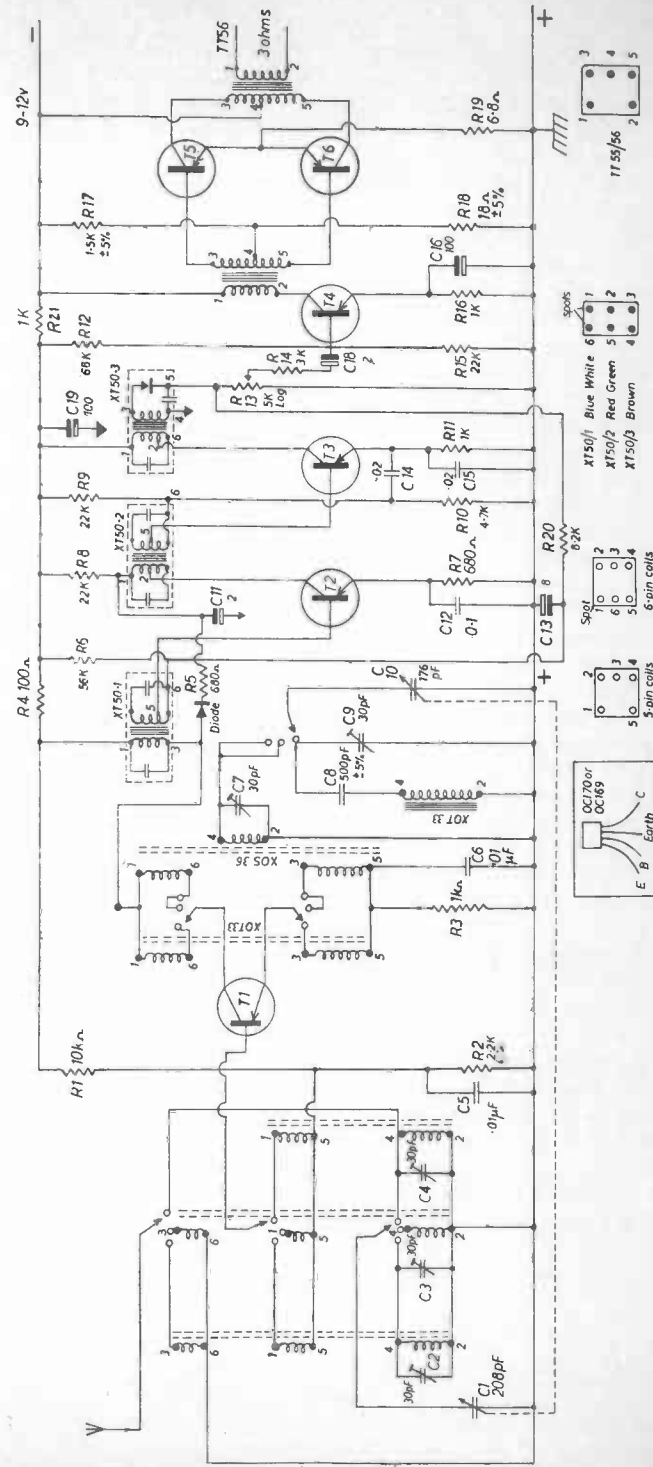

Figure 22. SCHEMATIC DIAGRAM OF TRANSISTOR SUPERHET
Transistor components are usually quite small as the low currents involved allow them to be used without difficulty. It is a good idea not to allow the heat of the soldering iron to stay on them too long as they could easily be damaged. There are two schematic diagrams for the receiver given. First of all we will consider that of Fig. 22 depicting a design for a six-transistor receiver. In this design the first transistor (T1) is the mixer-oscillator into which the signals are fed directly from the aerial without the benefit of any radio-frequency amplification. This is the normal method adopted in the majority of superhet receivers and works very successfully. Selectivity and certain other features are improved by the addition of an RF stage but this is not essential. The transistor used in this position is the Mullard special short-wave type OC170 and the coils are the Repanco short-wave transistor coils. There are five coils used to cover the range from 16 to 200 metres and additional coils can be added to include the medium and long waves.
5. Figure 22: Aerial and oscillator stages 3 wave-band Short Wave receiver using Mullard OC170 or OC169 transistor, and Jackson Bros. '00' gang (208+176 pF) fitted screen.